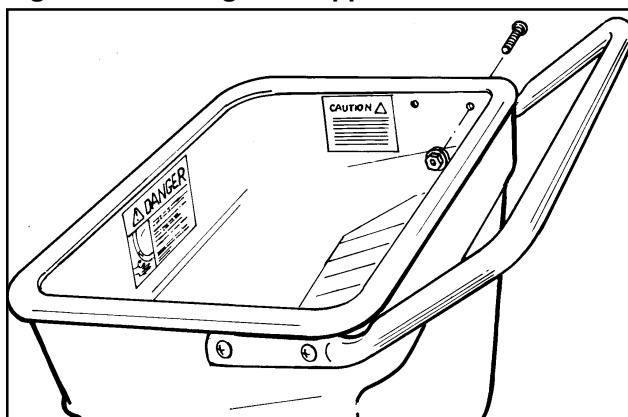

Figure 2. Installing the Hopper Handle
1. See Figure 2. Lift the Hopper Handle up until the outer holes in the handle align with the holes in the shredder hopper.